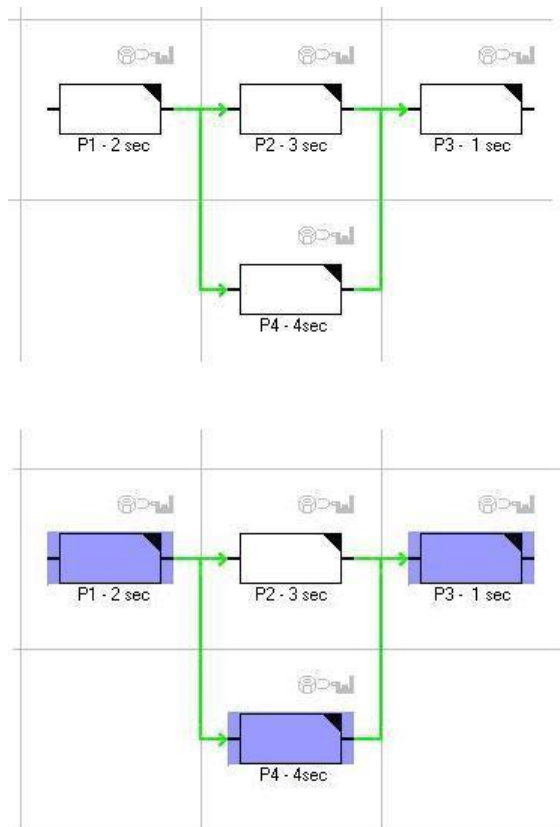

Figure 136: Example – Critical Path Process Arranged Parallel
- Critical path equals **7 seconds** (marked blue). Please refer to the Figure 136.